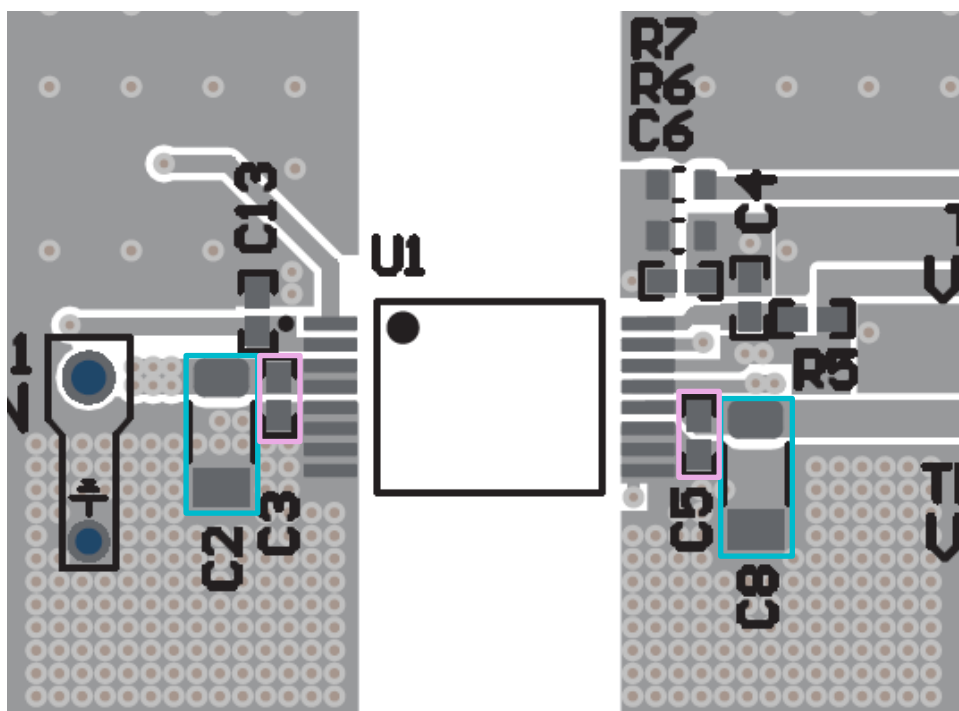

Figure 8-5. VIN (C2, C3) and VDD (C5, C8) Capacitors
- b. Place the bulk VIN capacitor(s) (C2) as close as possible and parallel to the 0.1 μ F high frequency bypass capacitor (C3) and on the same side of the PCB as the IC as shown in Figure 8-5.
- b. Place the bulk VDD-COM capacitor (C8) as close as possible and parallel to the 0.1 μ F high frequency bypass capacitor (C5) and on the same side of the PCB as the IC as shown in Figure 8-5.
8. Power good pins decoupling capacitor: The decoupling capacitor must be placed close to pin 2 (power good pin) and on the same side of the PCB as the UCC34141. Refer to C13 placement shown in Figure 8-5.